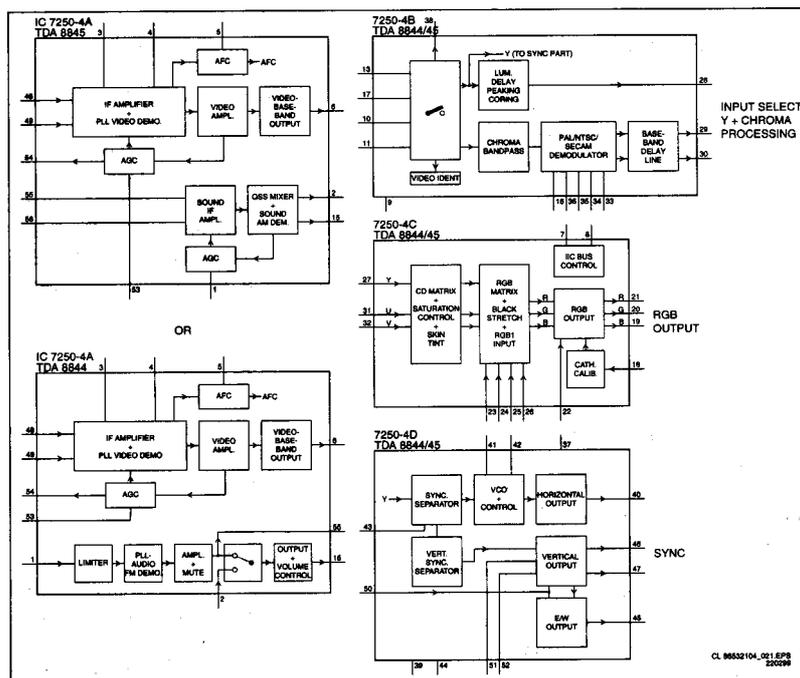
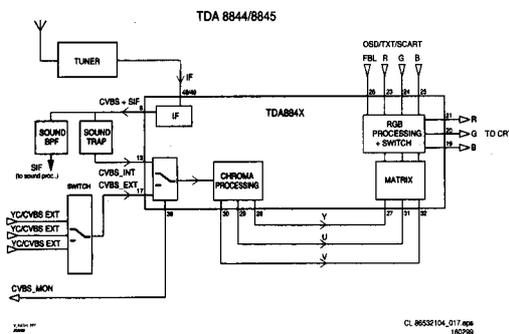

Figure 9-14 "BIMOS"
Figure 9-15 "Videopath"
In Figure 9.15 a simplified block diagram of the video path is shown. The main item in the block diagram shown in Fig.9.14 is the video processor item 7250. The IC performs the following functions, video IF demodulation, chroma processing and RGB processing. Additionally synchronisation processing, mono IF audio demodulation and audio selection takes place.
- For a detailed block diagram of the TDA8844/8845 see Figure 9.14.